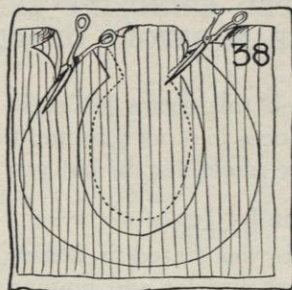

FIG. 38.
- (e) Cut the new piece of crinoline on the edge and on dotted line at the lap and the headsize (see Figure 38).
- (1) Take the new piece of crinoline that is cut like the pattern and pin it to headsize or crown as marked. The pencil line for the headsize should just fit the headsize band or fit directly over pencil line on crown.
- (2) Fold down drapes, creases, etc.
- (3) Try on to see if it is correct.
- (a) For changes necessary in making a brim on a headsize band, carry out suggestions in Sections 3 *n* (1) through (6), Section 3 *o*, and Section 3 *p* (pages 29 and 30). For changes necessary in making a brim on a crown, carry out suggestions in Section 4 *f* through Section 4 *l* (page 31).